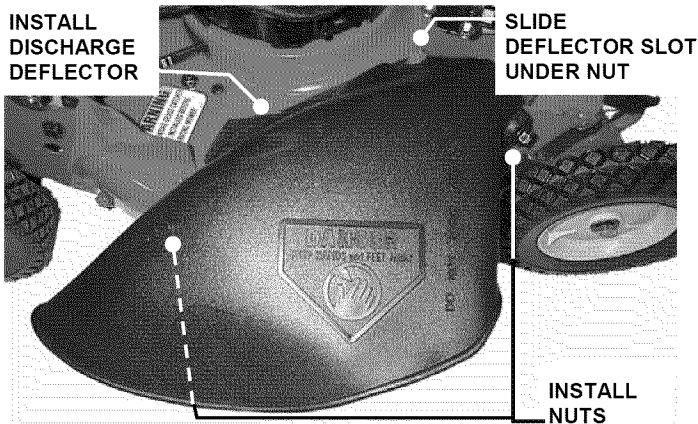

FIGURE 2.16
2. Install discharge deflector and secure to deck using hardware removed in Step 1. Slot in front edge of discharge deflector must be under nut as shown and both bolts protruding through holes in the side of the deflector. See Figure 2.16.